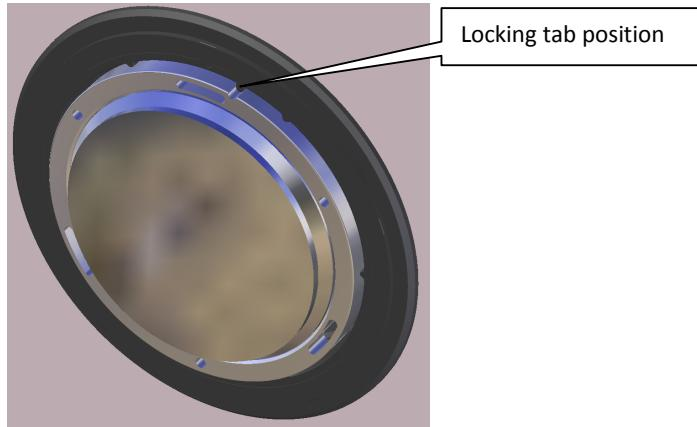

Fig. 19
16. Turning the light coil remaining cable and put it inside the niche. Lock the lamp in position on the tab (1pm o'clock) and push into the niche (**Fig. 19**).